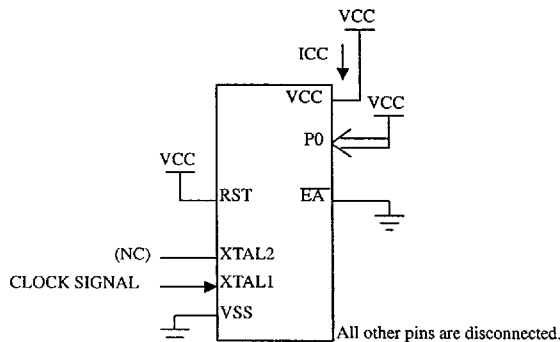

Figure 17. ICC Test Condition, Active Mode.
1. ICC is measured with all output pins disconnected; XTAL1 driven with TCLCH, TCHCL = 5 ns (see Figure 20.), $V_{IL} = V_{SS} + 0.5\text{V}$, $V_{IH} = V_{CC} - 0.5\text{V}$; XTAL2 N.C.; $\overline{\text{EA}} = \text{RST} = \text{Port 0} = V_{CC}$. ICC would be slightly higher if a crystal oscillator used (see Figure 17.).